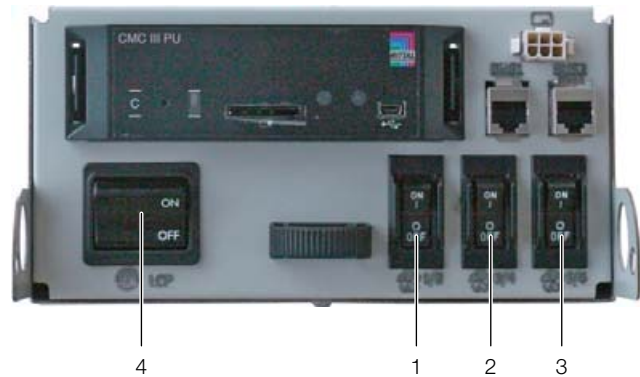

Fig. 35: Electronic module with master switch
On the LCP Inline flush, circuit-breaker 3 (fig. 35, item 3) is not assigned and therefore has no function.